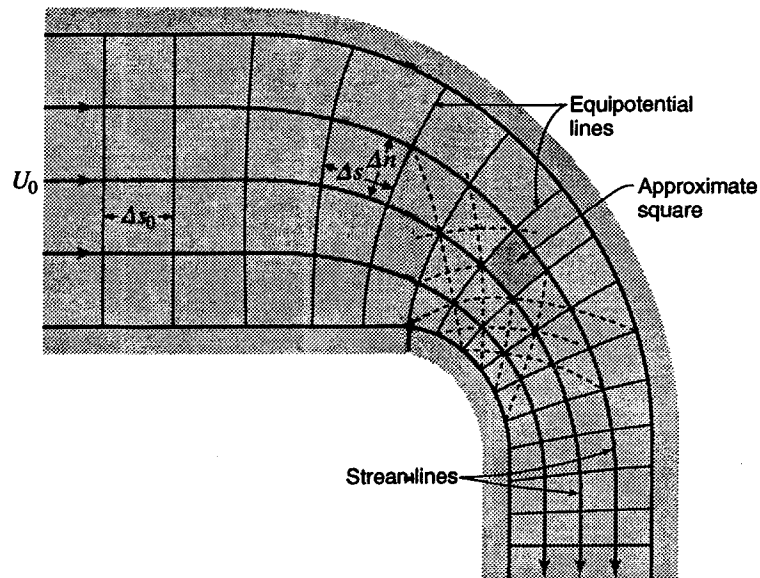

Figure 4.10
4.10.3 Given that U_0 in Fig. 4.10 is 6.0 fps, find approximately (a) the maximum velocity in the bend, and (b) the uniform velocity in the downstream section.